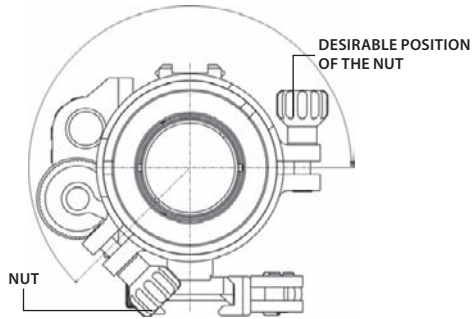

FIGURE 3-11. ESTIMATION OF THE SMS TURNING ANGLE
1. Decide on desirable position of the nut and estimate the angle through which the SMS should be turned CW (see Figure 3-11).